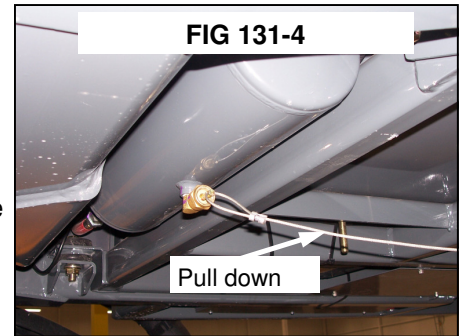

FIG 131-4
**AIR TANK**– Drain the air tank (fig. 131-4) daily by slowly releasing the drain cock. Check for moisture in the system. If there